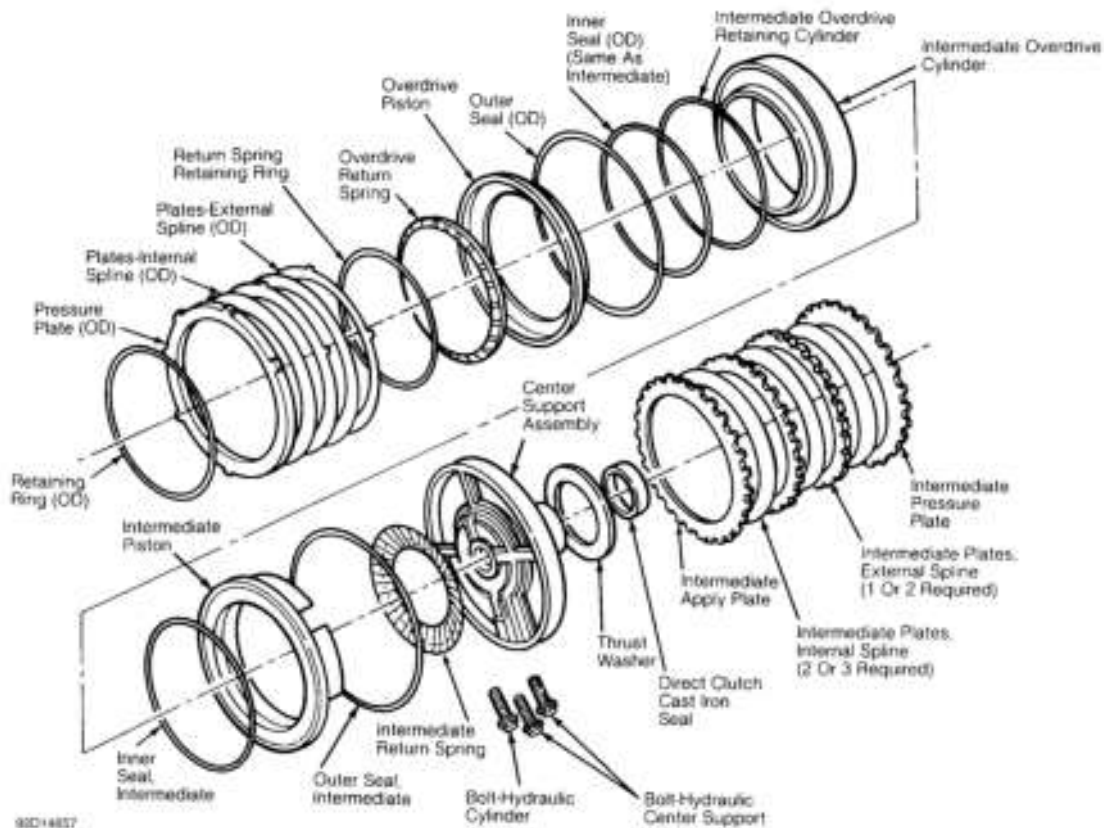

Fig. 15: Exploded View Of Intermediate-Overdrive Cylinder
2. Remove overdrive piston. Remove outer and inner seals and intermediate piston. See **Fig. 15**. Remove intermediate-overdrive inner seal from cylinder bore. Remove outer seal from intermediate piston. Remove 2 cast iron outer seal rings from center support.